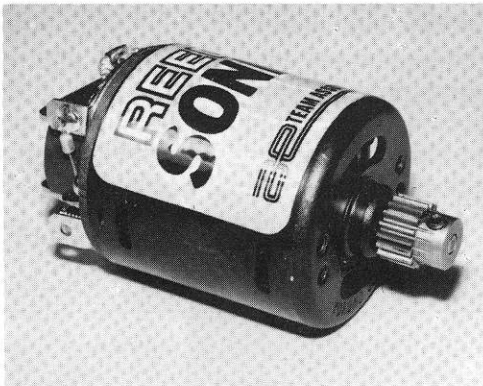

Fig. 164
□ **Fig. 164** Now you will need to locate your pinion gear and its appropriate set screw. **Note:** Most of the American made pinion gears use a 4-40 set screw, which requires an .050" Allen wrench. The few non-standard American made gears will use a 1/16" Allen wrench. Any of the pinion gears made overseas will most likely use a 3mm set screw, which requires a 1.5mm Allen wrench.